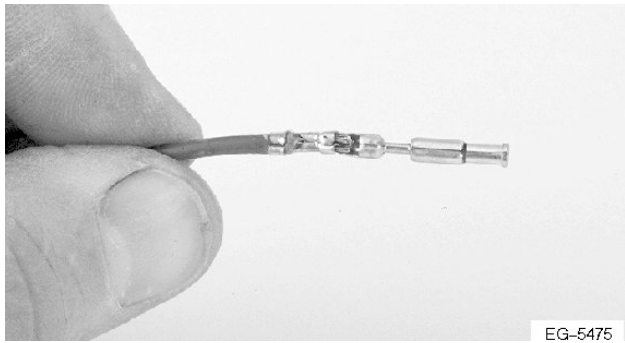

Figure 274 Contact Crimping Complete
4. Contact crimping complete (See Figure 274, page 442).